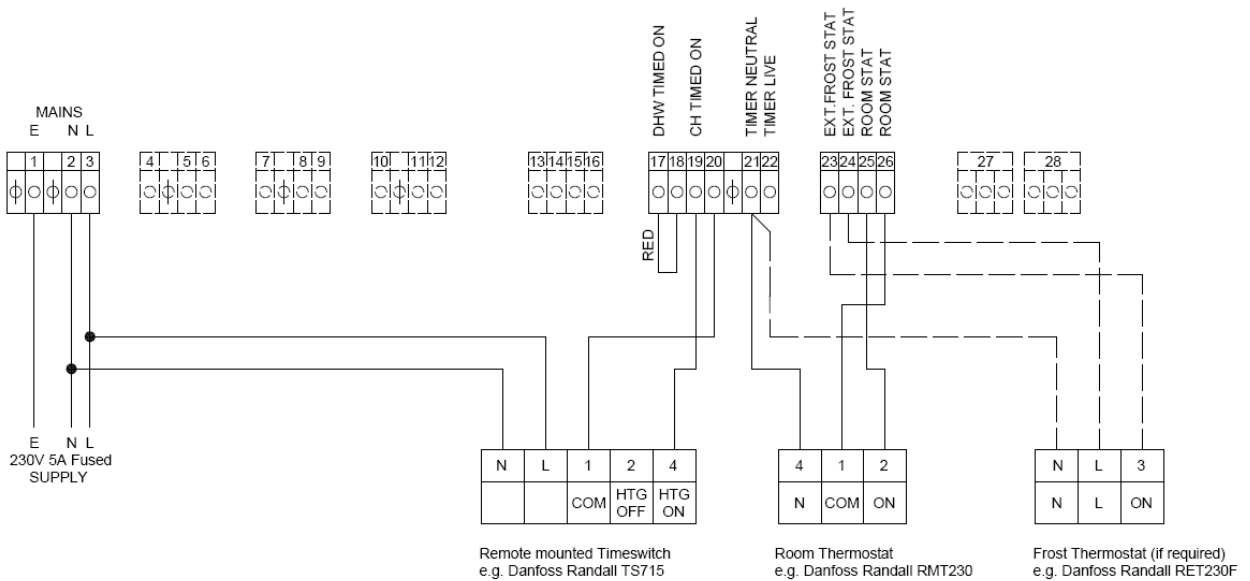

Fig.5. Connections for Timer and Room Thermostat
- 1 Remove the **Orange** room thermostat link wire from terminals 25 & 26 on the connection block and connect the wires from the room thermostat. Refer to Figs.5 & 6 for further details.
2. Remove the **Black** link wire from terminals 19 & 20 on the connection block. Connect the two switch wires from the timer. Connect the live, neutral (and earth if required) from the timer to terminals 3, 2 & 1 respectively on the boiler terminal block. Refer to **Fig.5** for further details.